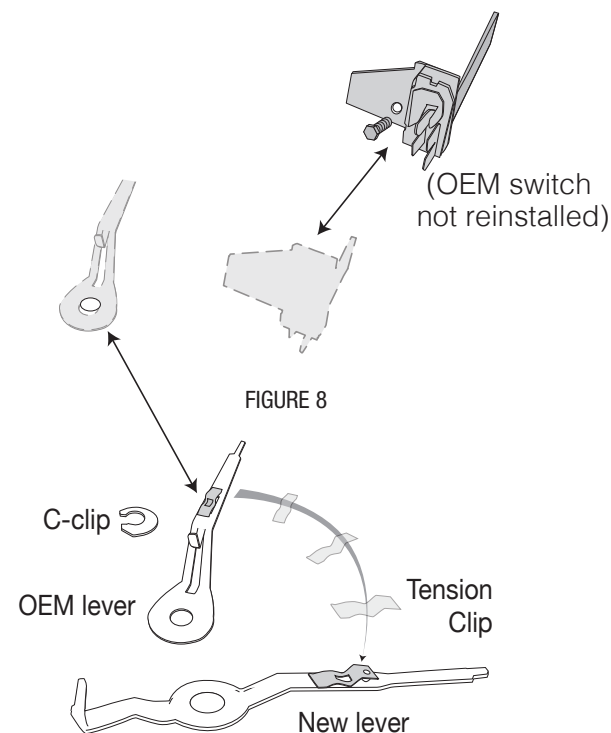

FIGURE 8
(Figure 8)
STEP 1) Remove the OEM blower switch knob. Retain the screw, you will use it again shortly. Remove the control cables and the original blower switch and set aside (these will not be reused, see figure 8). Remove the OEM control lever, then remove the tension clip and set it aside (control arm will not be used again). Move the tension clip to the new control arm (in the same orientation as the OEM), and put the new arm in place. Re-secure with the OEM c-clip (see figure 8).